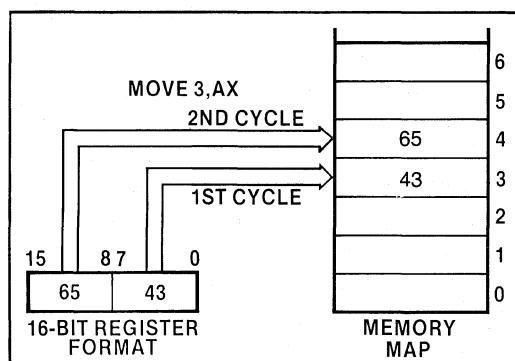

Figure 3-12. How 16-bit Data is Arranged within 8-bit memory
16-bit operands are stored in memory, with the least significant byte (LSB) first and the most significant byte (MSB) in the next location. Figure 3-12 shows that when the 16-bit operand 6543 was moved from the AX register to memory location 3, the LSB (43) was moved into location 3 by the first machine cycle, and the MSB (65) was moved to location 4 in the next machine cycle.